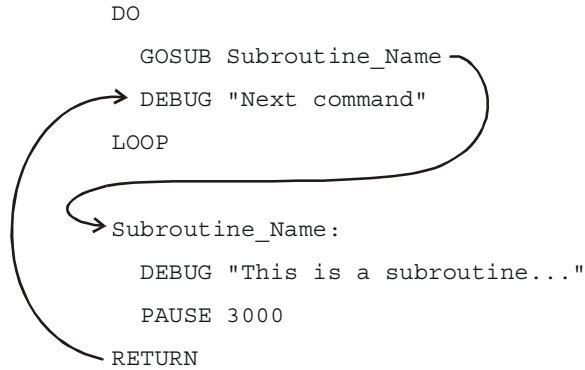

Figure 7-11
Figure 7-11 shows an example of a subroutine and how it's used. The command `GOSUB Subroutine_Name` causes the program to jump to the `Subroutine_Name:` label. When the program gets to that label, it keeps running and executing commands until it gets to a `RETURN` statement. Then, the program goes back to command that comes after the `GOSUB` command. In the case of the example in Figure 7-11, the next command is: `DEBUG "Next command"`.
- √ Add the subroutine example in the Figure 7-11 on page 207 to `SimpleSubroutines.bs2`.